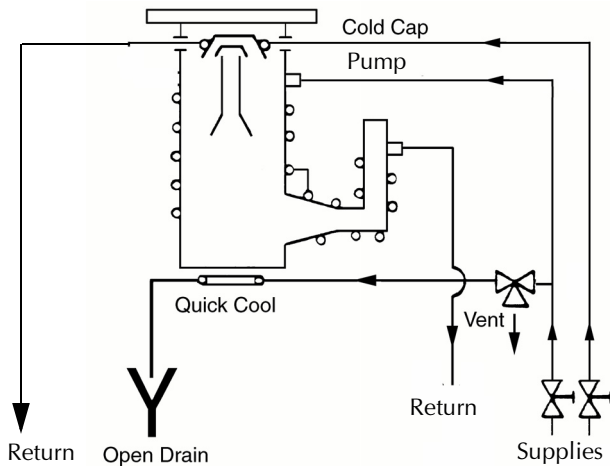

Figure 11 HS-32/NHS-35 Cooling Water Connections
1. Connect all body and foreline cooling in series except the Quick Cool coil. Connect the Cold Cap cooling coil separately (Figure 11). Refer to Table 4 on page 12 for the cooling water flow rate. Higher flows will not harm the pump.